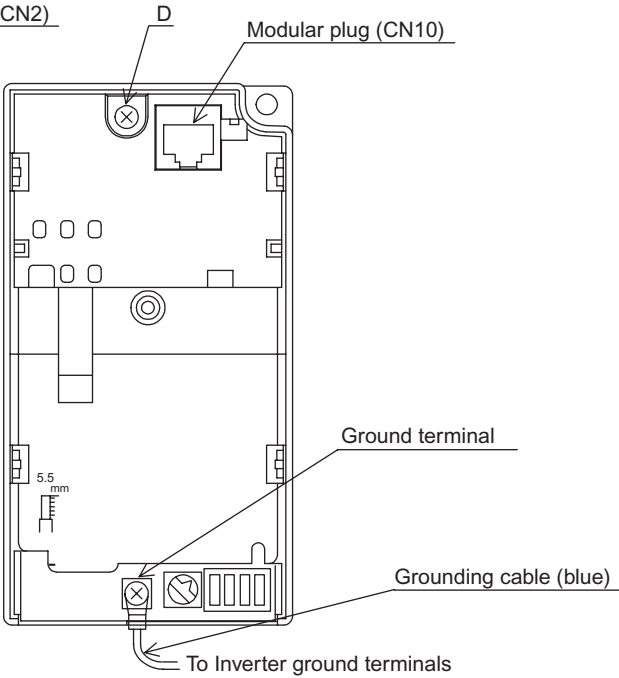

Fig. 2 Front of the SI-T/V7 Unit
5. Before installing the SI-T/V7 Unit on the Inverter, connect the grounding cable to the grounding terminal as shown in Fig. 2. Three types of grounding cables for various Inverter capacities are provided. Connect the appropriate cable with a crimp terminal.